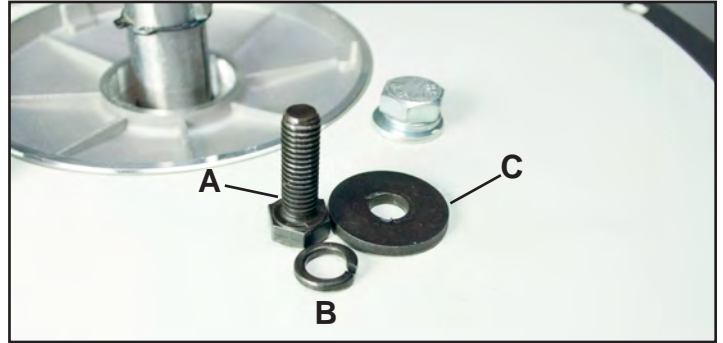

FIG. 9
- Hex Head Bolt M8X25 (A - Fig. 9/Parts List #11B)
- Spring Washer 8mm (B - Fig. 9/Parts List #10B)
- Big Washer 8mm (C - Fig. 9/Parts List #9B)